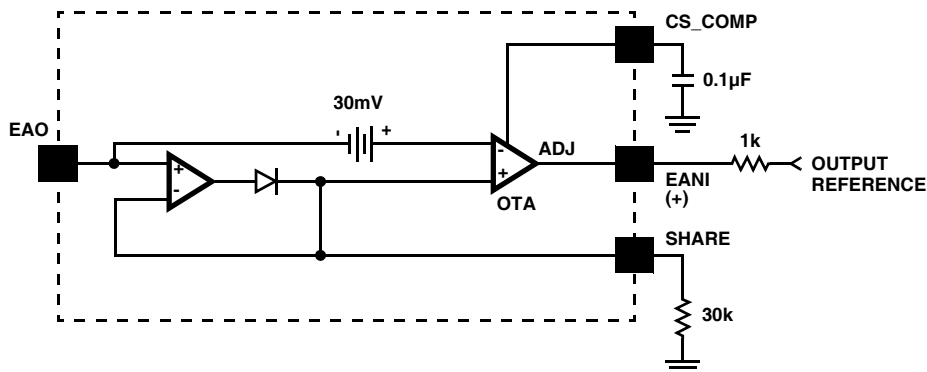

FIGURE 13. SIMPLIFIED CURRENT SHARE CIRCUIT
- The unit with the highest reference is the master. Other units, as slaves, adjust their references via a source resistor to match the master reference sharing the load current. The source resistor is typically 1k Ω connecting the EANI pin and the OUTPUT REFERENCE (external reference or BGREF), as shown in Figure 13. The share bus represents a 30k Ω resistive load per unit, up to 10 units.